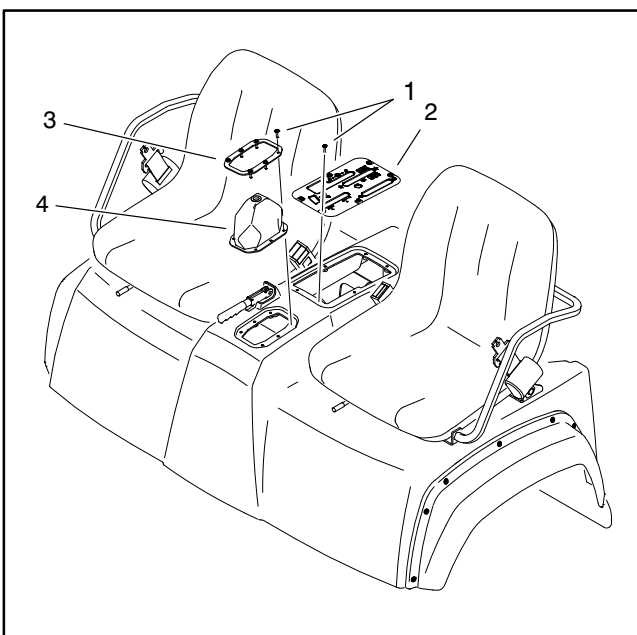

Figure 47
2. Remove knob from gear shift lever, then remove boot plate and shifter boot from seat base (Fig. 47). Additional access may be necessary and can be obtained by removing the control plate.
3. Use a multimeter (ohms setting) to test continuity across the switch terminals. Disconnect the wire harness connector from switch. Check continuity across the two (2) switch terminals. There **should be** continuity (zero ohms) when the parking brake is released and there **should not be** continuity (infinite ohms) when the parking brake is engaged.